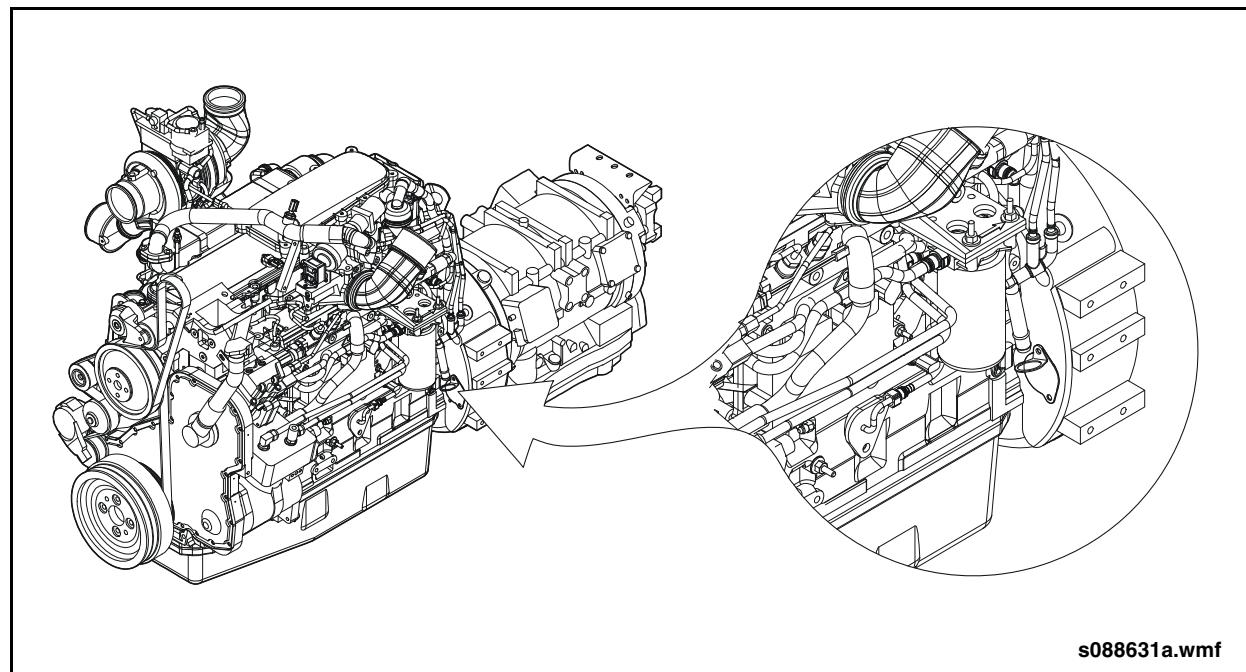

Fig. 5-12: Flexplate Access Cover
11. Remove engine flywheel access cover. Rotate the engine flywheel until a flexplate-to-ring gear bolt is centered in the opening of the viewing hole. See "Fig. 5-12: Flexplate Access Cover" on page 12.